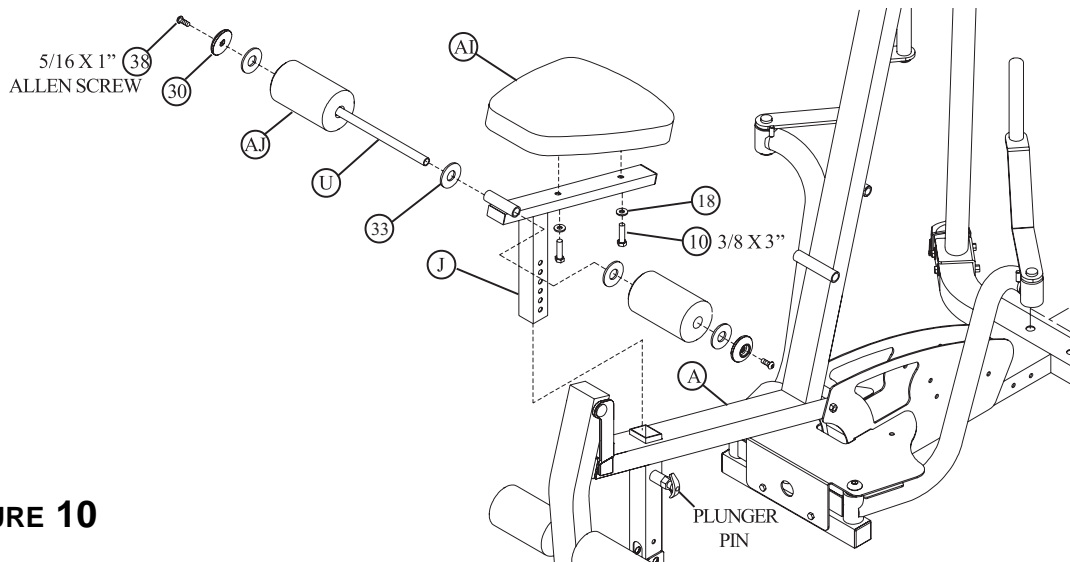

FIGURE 10
- **SECURELY** assemble the SEAT PAD (AI) to the SEAT ADJUST (J) using two 3/8 X 3" SILVER BOLTS (10) and two 3/8" WASHERS (18).
- Assemble two ROLLER PADS (AJ) to the SEAT ADJUST (J) using one 3/4 X 18-3/8" TUBE (U), four PLASTIC WASHERS (33), two ROLLER PAD CAPS (30), and two 5/16 X 1" ALLEN SCREWS (38) as shown in FIGURE 10.
- **CAREFULLY** insert the SEAT ADJUST ASSEMBLY into the FRAME (A) as shown. The SEAT height can be adjusted using the PLUNGER PIN.